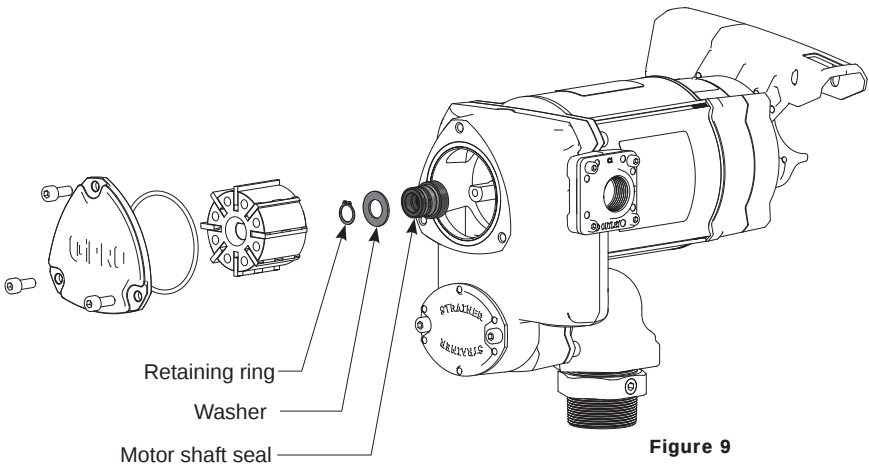

Figure 9
2. Using a 6mm Hex wrench, remove cover plate (see Figure 9). Remove cover plate O-ring.
3. Remove shaft key, rotor, and vanes. Remove vanes and key first before removing rotor to prevent them from falling into pump inlet (see Figure 9).
4. Using snap ring pliers, remove retaining ring, being careful not to damage motor shaft or housing bore (see Figure 9). Remove washer and motor shaft seal. Discard these three parts.